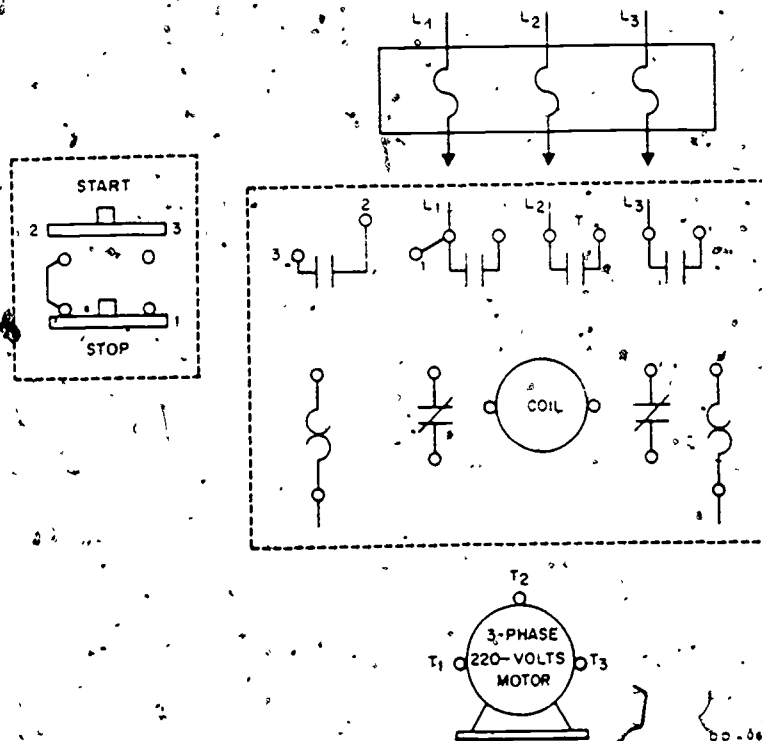

Figure 15. Connecting a Three-Phase Square-D Magnetic Starter For Low Voltage
1. Complete the diagrams in figures 15, 16, and 17.